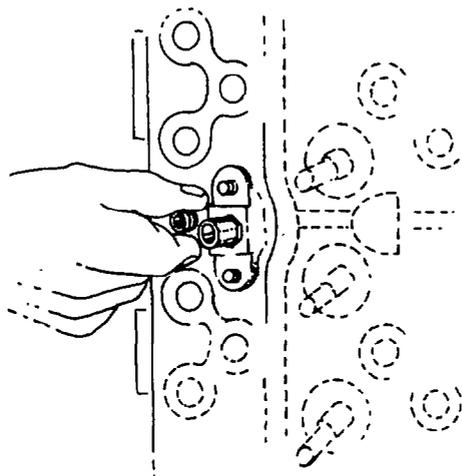

Fig. 44 — Checking Injector Nozzle Sleeves
- a. Insert an old fuel injector into each injector nozzle sleeve to check for binding and straightness of studs (see fig. 44).